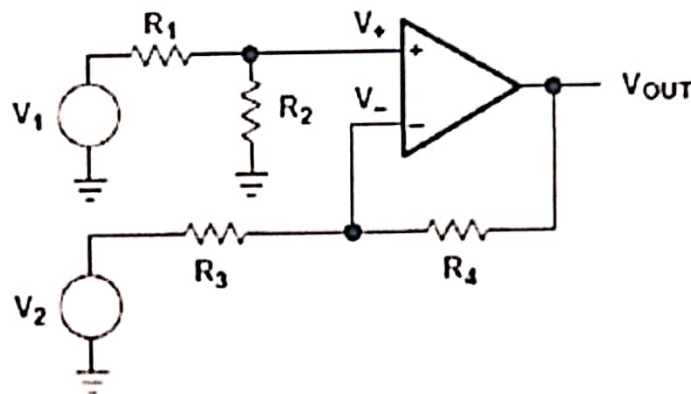

Figure 3: Operational Amplifier (Op-Amp) Circuit
- b) Consider the op-amp circuit shown in Figure 3. [8 marks]